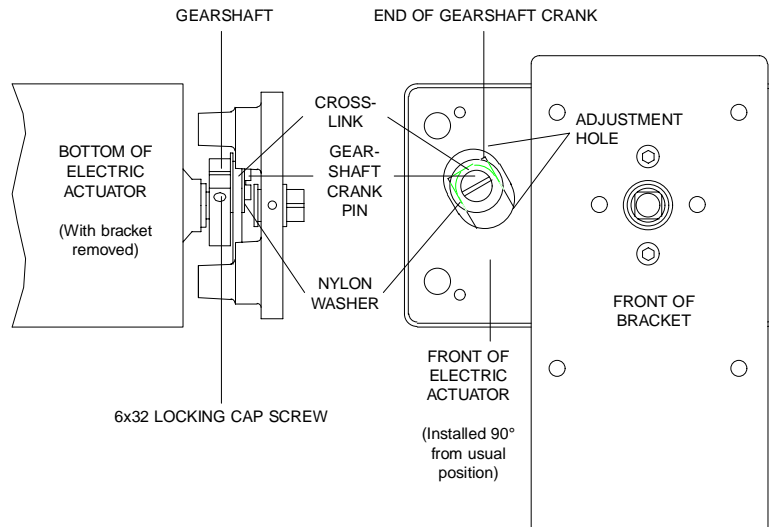

Figure 14: Actuator stroke adjustment
7. Use a 7/64 hex driver to loosen the 6-32 cap screw on the gearshaft crank. (**Figure 14**)
4. Step the actuator from position to position two or three times. Look through the adjustment hole (**Figure 14**) in the front casting to see if the arms of the crank assembly are parallel. They should look like **Figure 23**, with the shaft crank virtually hidden behind the other arm. If they do, **unplug the actuator**, tighten the screw which secures the flag, and proceed to Step 5 in Section 6.1, **Adjusting the Actuator Stroke**. If they do not, proceed to the next step.